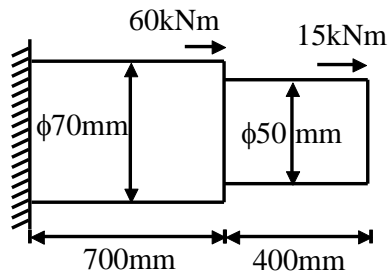

Fig. 1
- b) For a step shaft as shown in fig. 1. having shear modulus 80 GPa being subjected to torques as shown in fig. 1. 9